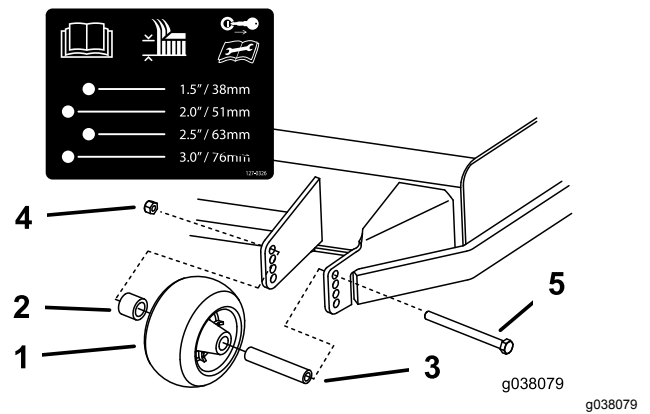
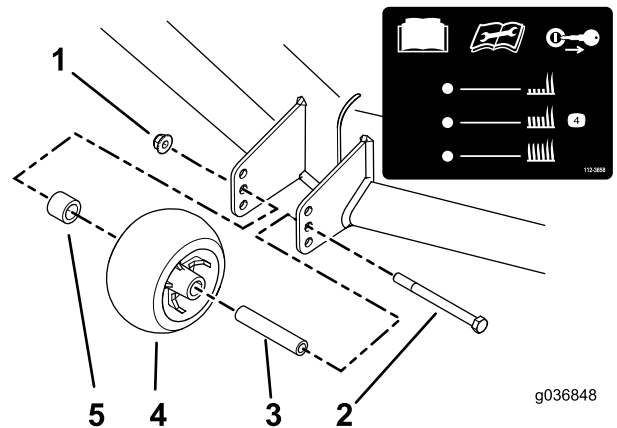

Figure 36
Figure 37
3. Adjust the anti-scalp rollers as shown in Figure 36 or Figure 37.